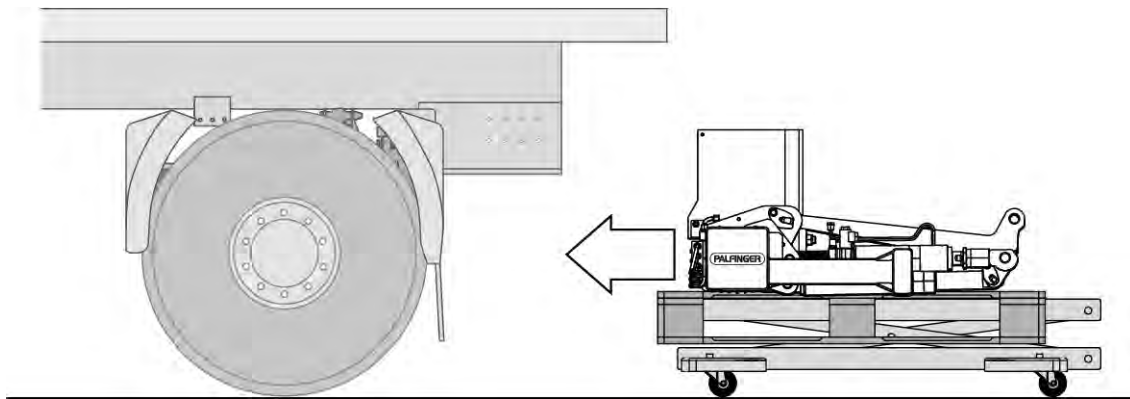

Figure 13: Positioning the lifting mechanism
- Carefully position the lifting mechanism under the vehicle (see Figure 13).